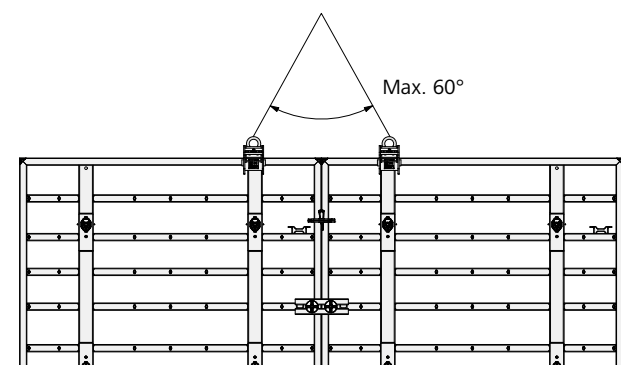

Fig. 28.5
- across the centre beam for vertical panels, if possible (Fig. 28.5)